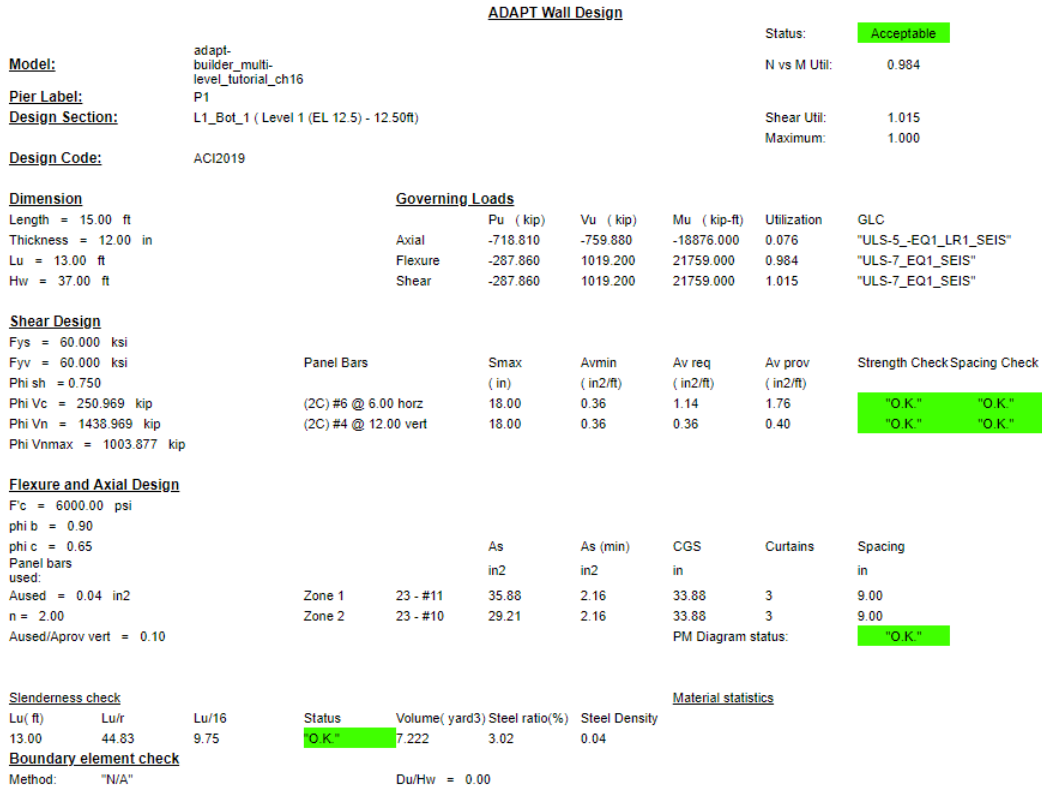

FIGURE 16-10
- Return to the *Design Section* tab and select **Design** again. After designing the section again with auto-constraints turned off for the vertical zone bar size, the program can now find a satisfactory solution. **FIGURE 16-10**.